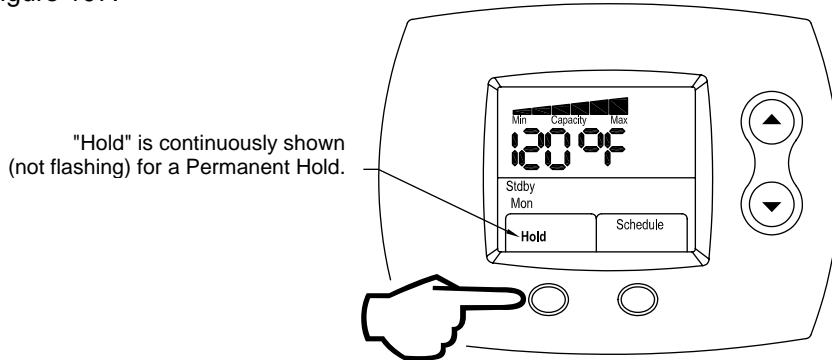

Figure 107
Step 2: A permanent hold will maintain the water heater setpoint at the new setting indefinitely. Press the **LEFT** (Hold) button to establish a permanent hold. When the Setback Control is in a permanent hold, the "Hold," in the lower left corner of the display, will be shown continuously (not flashing). This is shown in Figure 107.